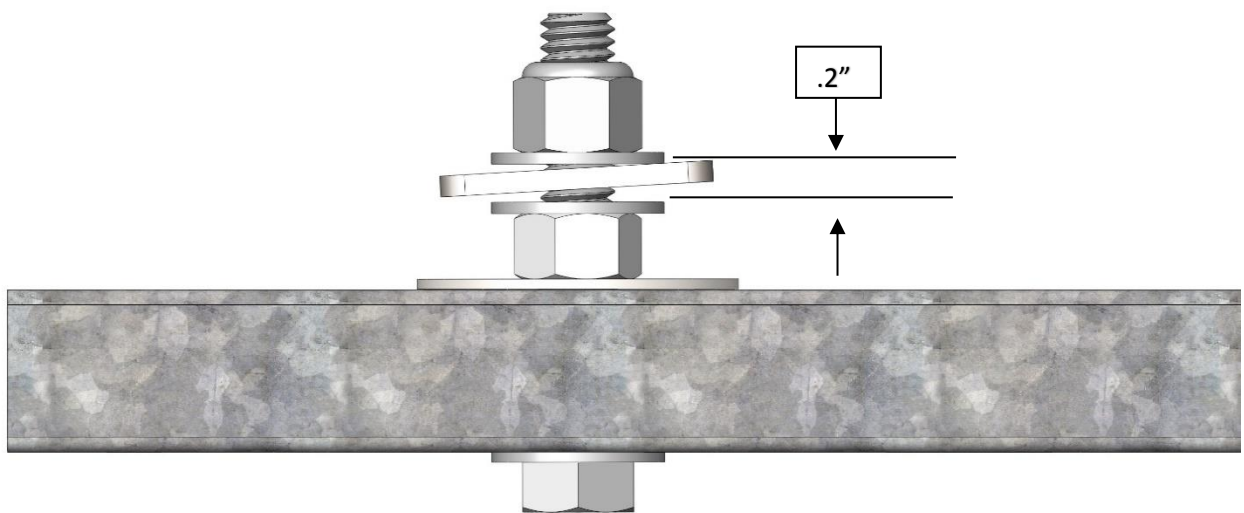

Figure 10: Upper Tape Mounting Assembly
- Loosely assemble the Upper Tape Mounting Assembly in the order shown in figure 10.